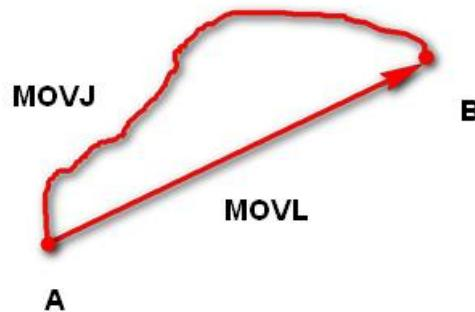

Figure 3.6 MOVL/MOVJ mode
- **MOVJ:** Joint movement. From point A to point B, each joint will run from initial angle to its target angle, regardless of the trajectory, as shown in Figure 3.6.
- **MOVL:** Rectilinear movement. The joints will perform a straight line trajectory from point A to point B, as shown in Figure 3.6.